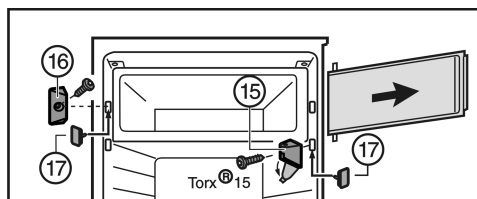

Fig. 7
- Fold away cover of turn hinge *Fig. 7 (15)*.
- Unscrew turn hinge *Fig. 7 (15)* together with compartment door.
- Unscrew closing element *Fig. 7 (16)*.
- Close the vacated holes with the accompanying stoppers *Fig. 7 (17)*.